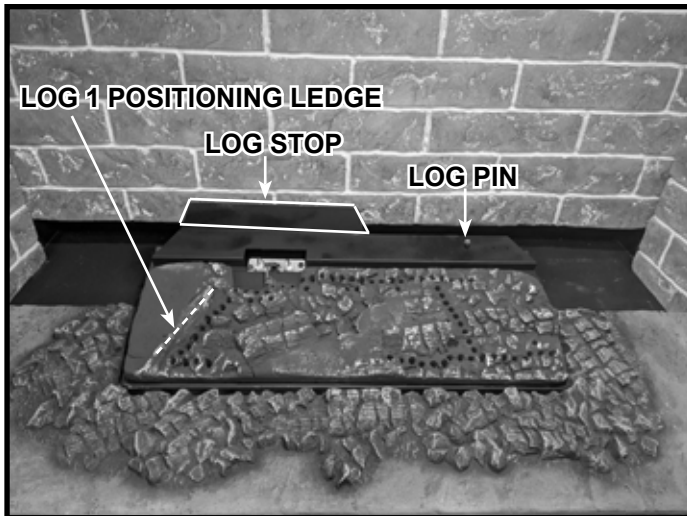
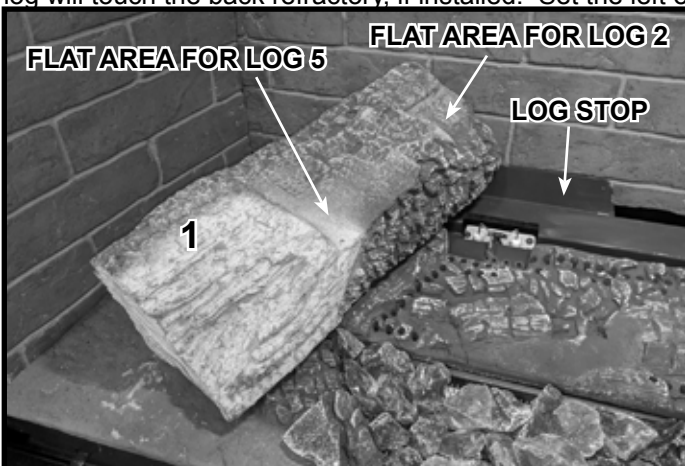
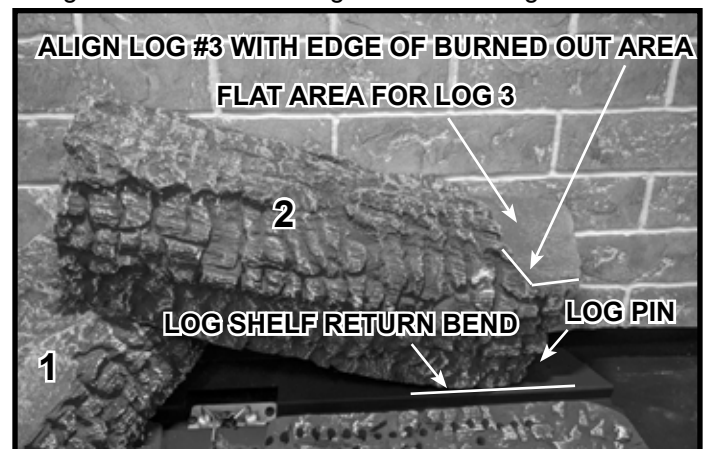

Figure 2 Log Location Features
Figure 3 Place Log #1
Figure 4 Place Log #2
**NOTICE:** To simplify the installation process, positively identify each individual log before beginning installation. See Figure 1. Key log location features are shown in Figure 2.
**Log #1:** Position Log #1 along the log positioning ledge referenced in Figure 2. Slide Log #1 back until it contacts the log stop.
**Log #2:** Position the right end of Log #2 against the log pin as shown in Figure 4. Refer to Figure 2 for log pin location. Position the bottom side of the log on the log shelf and place it just behind the log shelf return bend. The back side of the log will touch the back refractory, if installed. Set the left end of the log on the flat area of Log #1 shown in Figure 3.
**LOGS-6KX :** Place the large end of Log #5 on the flat area of Log #1, highlighted in Figure 3. The other end rests on the flat area of Log #4 as referenced in Figure 7. The edge of the large end of Log #5 should be flush with the back edge of Log #1 as shown in Figure 10.